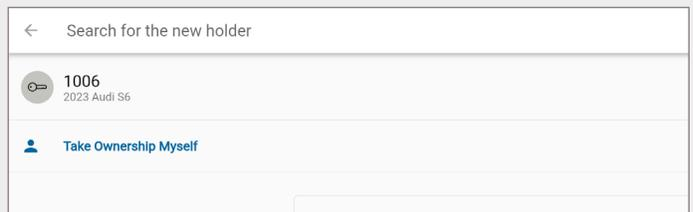

Fig. 118 – Transfer screen – Search for the new holder
6. Alternately, you may choose to transfer ownership of the asset to yourself by selecting **Take Ownership Myself**, as shown in Fig. 118.